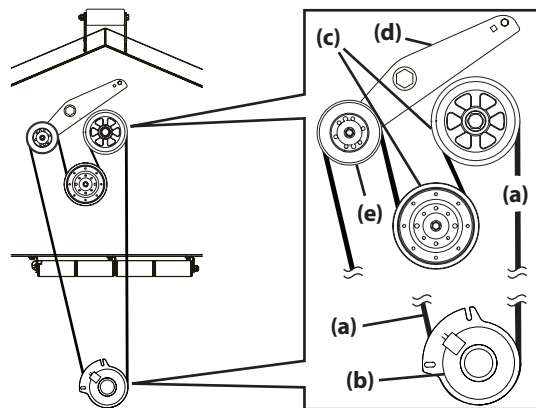

Figure 31
1. Remove the PTO belt (a) from the deck as instructed in STEPS 1 - 3 in the Deck Removal section then remove it from around the PTO clutch (b) (Figure 31).
2. Route the PTO belt (a) (Figure 31).